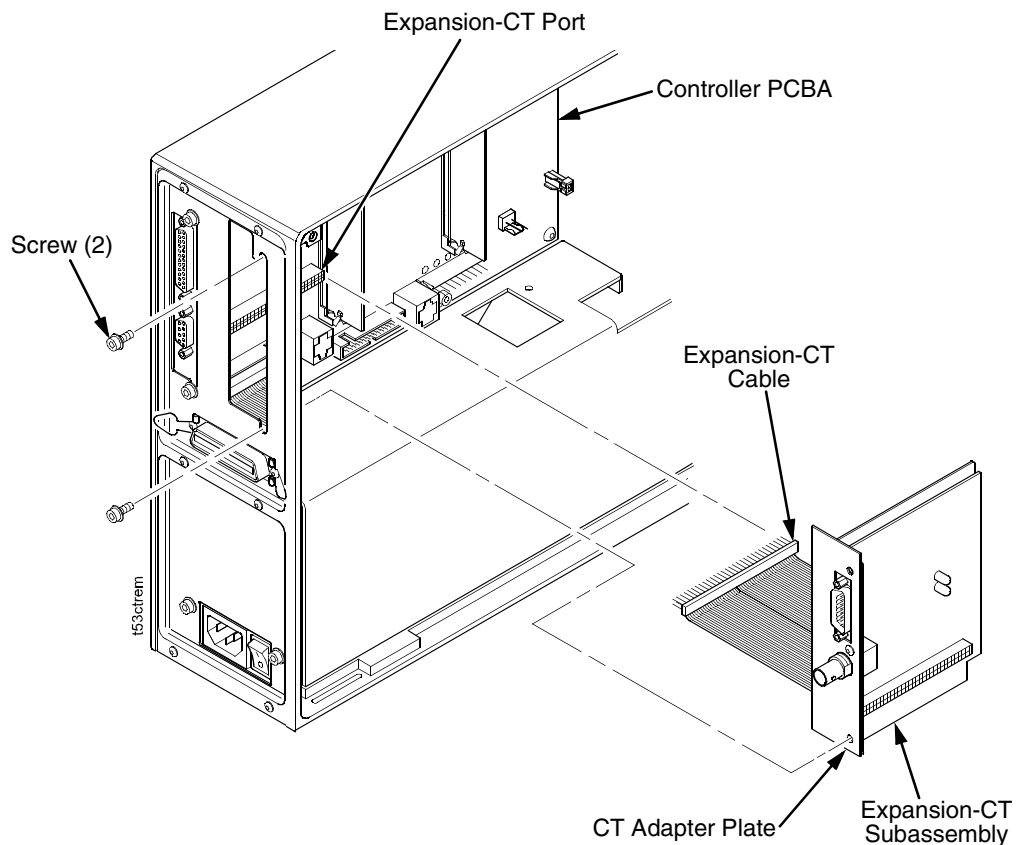

Figure 3. Removing the Expansion-CT Subassembly
- a. Loosen one screw and remove the other screw that secures the expansion-CT subassembly to the rear of the printer frame. (Figure 3.)